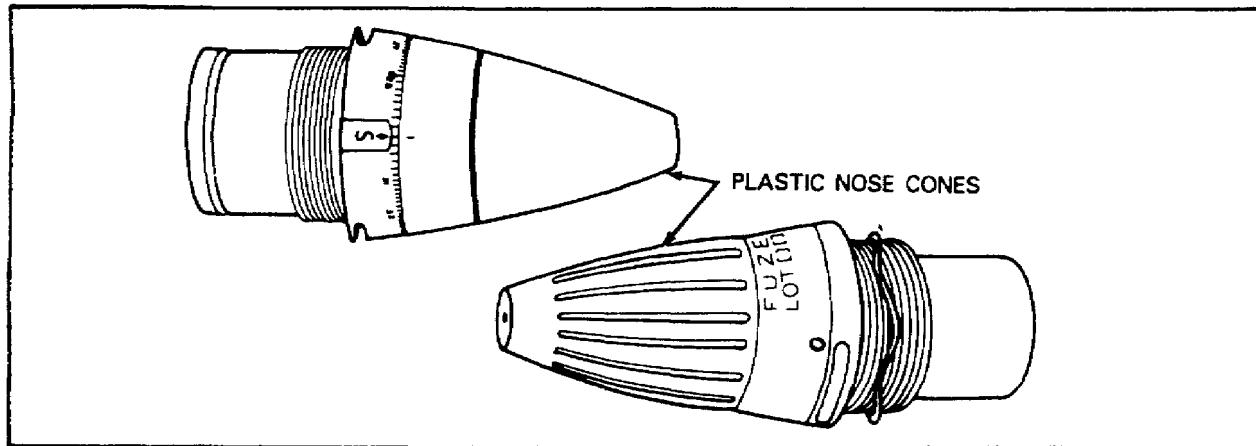

Figure 71. Proximity (VT) Fuze for 81mm Mortar.
**Proximity.** The proximity fuze, also known as the variable time (VT) fuze, is readily identified by its olive drab plastic nose cone. Figure 71 shows the two proximity fuzes now used in 81mm mortar ammunition.